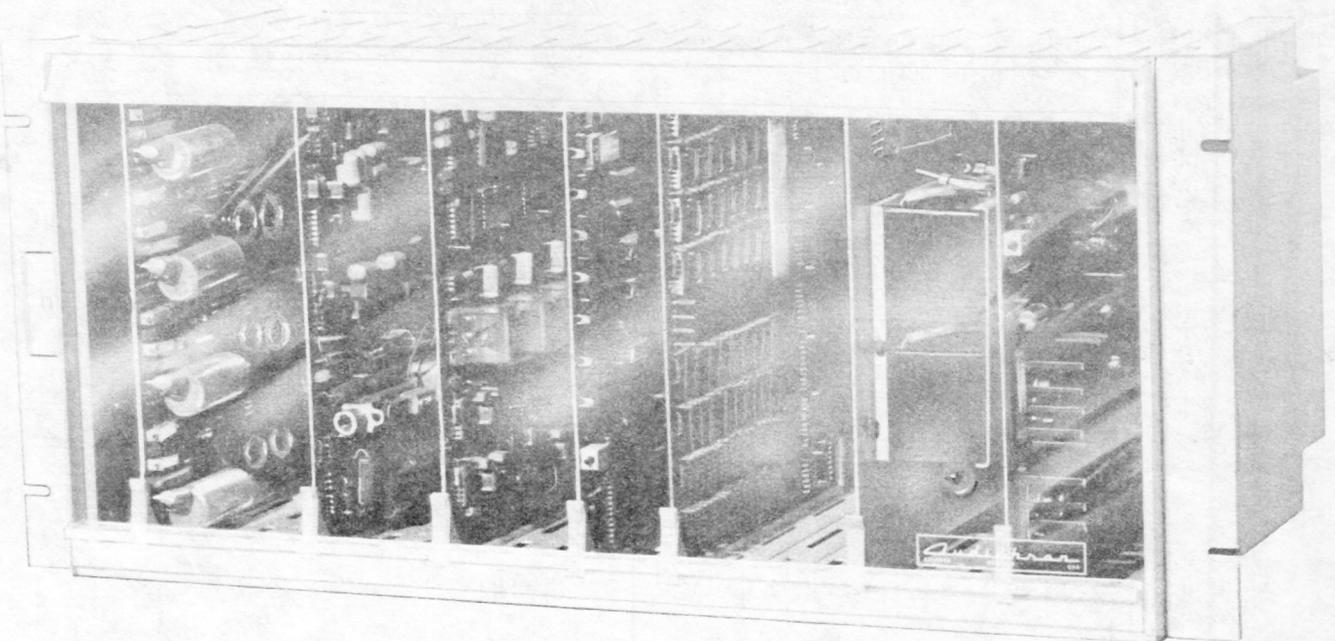

Fig. 5—♦AUDICHRON HQD 614B Recorder/Announcer♦
3.13 ♦The AUDICHRON HQD 614B recorder/announcer (Fig. 5) is different in design and appearance, but operates similar to the HQD 614. The HQD 614B accepts VAR and TNT message inputs and uses 4-phased offset to output the wakeup message. The optional tape recorder adapter and battery backup circuit are also available for the HQD 614B.